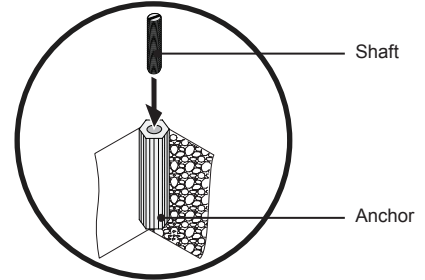

Figure 4. Drilling Hole Mark
- 5 Thread the shaft into the anchor. If needed, a screwdriver maybe used. Leave  $\frac{3}{8}$ " of the shaft exposed (Figure 4).